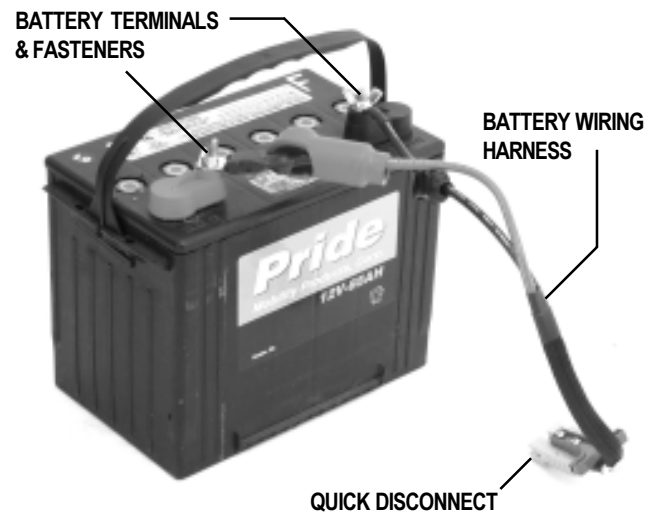

Figure 26. Battery and Harness
5. Locate the battery quick disconnects on the frame and disconnect both of them. See figure 26.